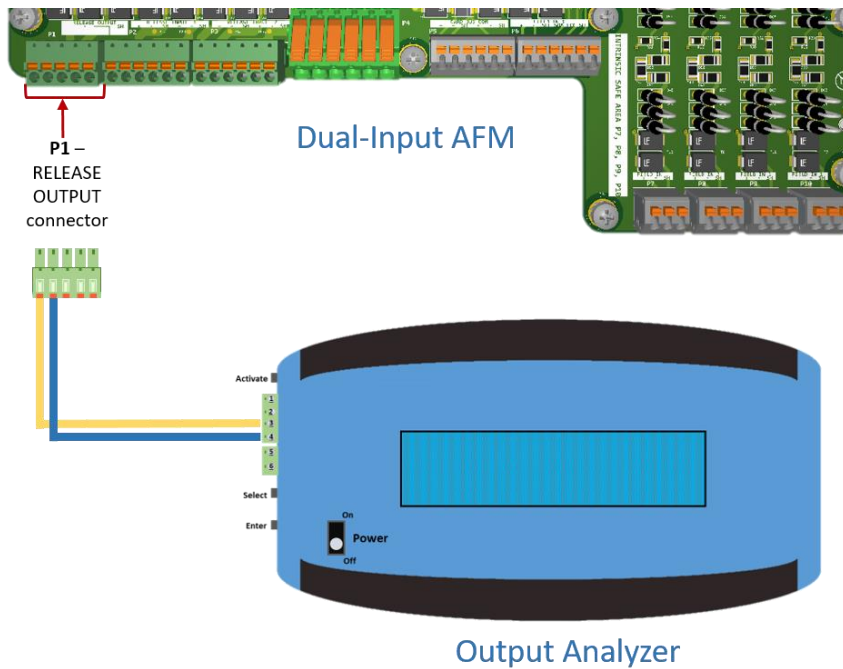

Figure 10 - EXP AFM Firing Circuit Activation Current Test (Dual Input shown)
2. Connect the Output Analyzer to the EXP AFM Release Output connector (P1), as shown in Figure 10.
6. If the Output Analyzer is not connected as shown in Figure 10, or the EXP AFM is not powered, the Disconnected/Off screen will be displayed.